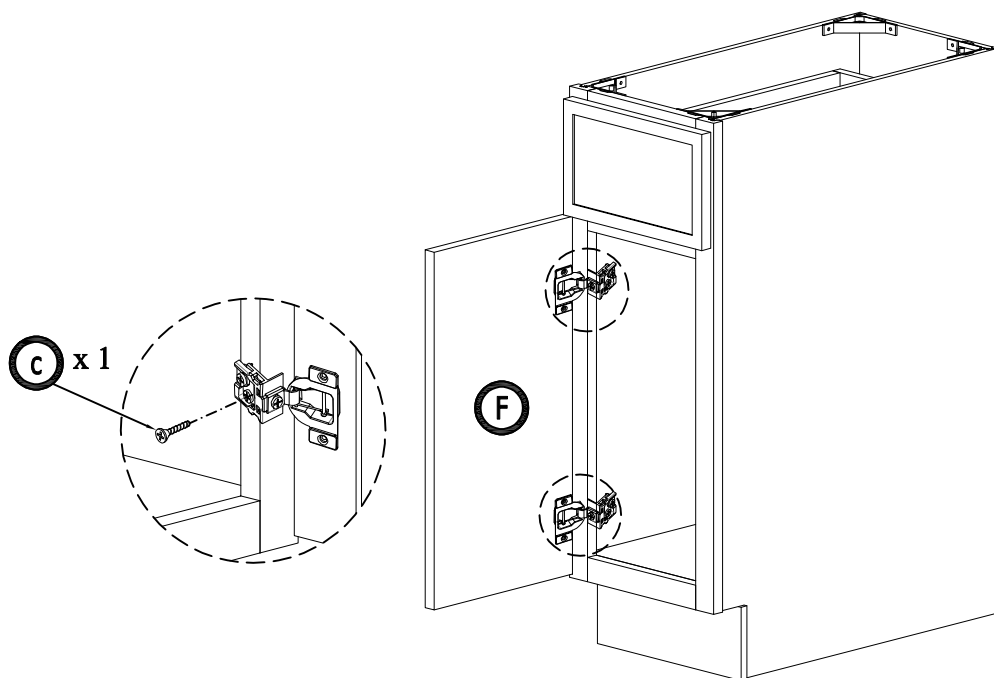

Figure 10
10. Assemble door with hinges to left and right of cabinet frame by 2 screw 4/5" (Figure 10)